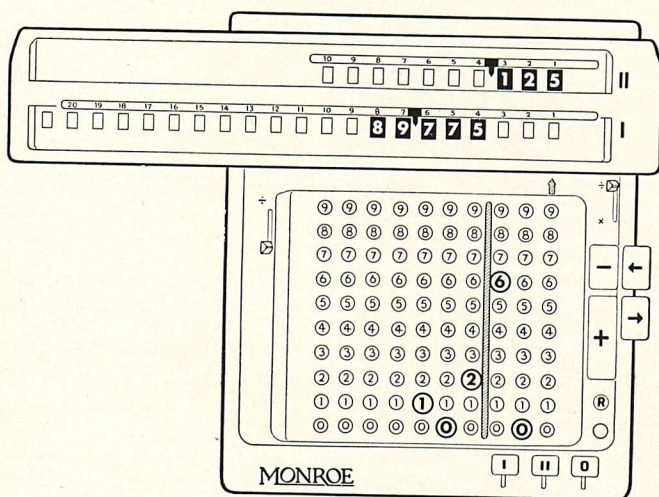

Figure 17
*Step 4*—Upper dials show .125, rate of discount; lower dials 89.775000 or \$89.78, net of invoice; and keyboard 102.60, gross invoice. See Figure 17.